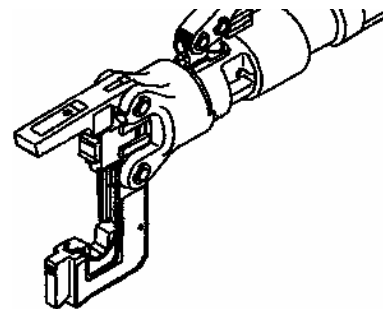

Figure 84. HD51 Open Head for Die Removal
d. To remove the dies, open head and remove dies by sliding along slot (Figure 84).